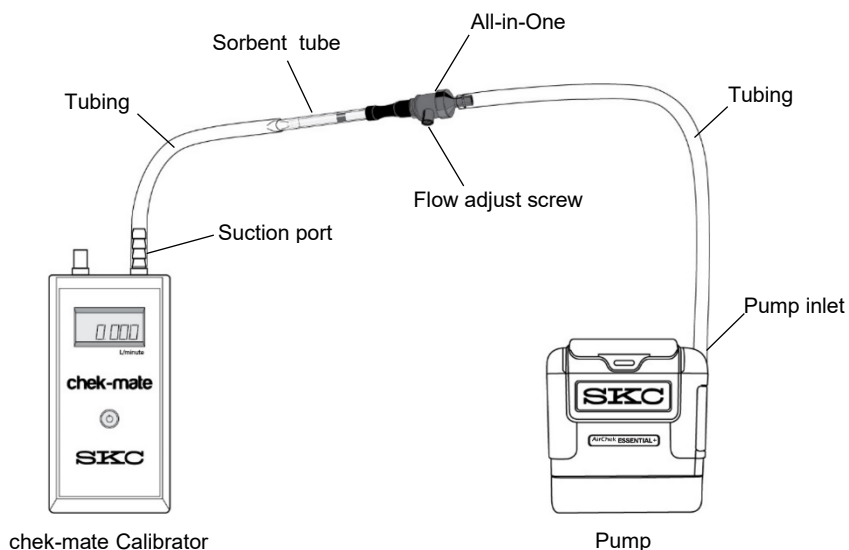

Figure 4. Calibration Train (5 to 500 ml/min) for Single Tube
1. On the tube holder, insert an opened representative sorbent tube (arrow on tube pointing toward the pump) into the rubber sleeve on the port. See Figure 4.
Connect the calibrator to the single sorbent tube or the first of multiple sorbent tubes as shown in Figures 4 and 5, respectively.
Calibrate Flow Rate with All-in-One (single tube, see Figure 4)